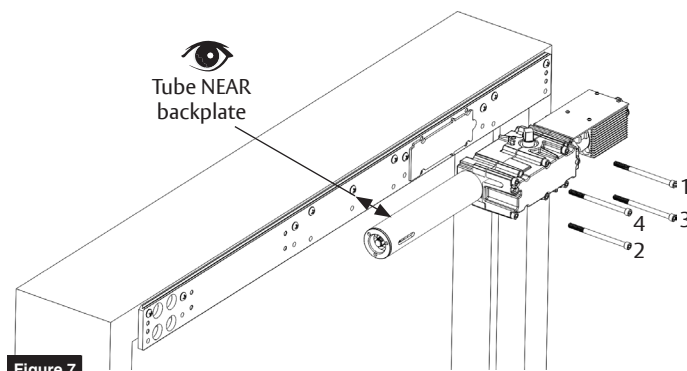

Figure 7
1. Using four (4) screws, install closer body to backplate. (Figure 7)
Note: Screws must be tightened in a cross pattern until all four (4) screws are tight. (Figure 7)
NOTE: Closer body is in proper orientation for PUSH SIDE application when tube is NEAR backplate. (Figure 7)